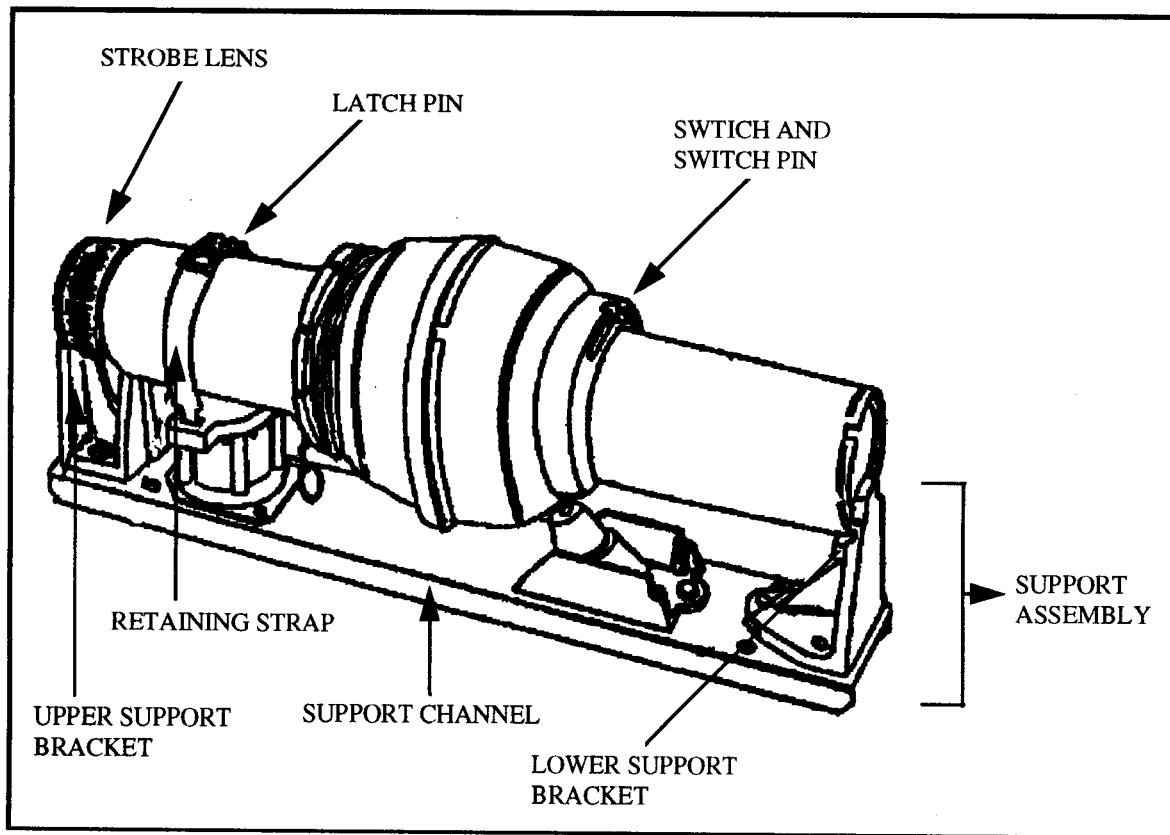

Figure 10-1. Category 1 (406) EPIRB
c. **Category 1,406 EPIRB.** US Army watercraft have commercially manufactured EPIRBs. Category 1,406 EPIRBs (see Figure 10-1, page 10-6) transmit on 406.025 MHz and VHF 121.5 MHz simultaneously and have a line of sight range. SARSAT or COSPAS emergency surveillance systems may detect these EPIRBs. This international project uses satellites to detect and determine position of EPIRBs.